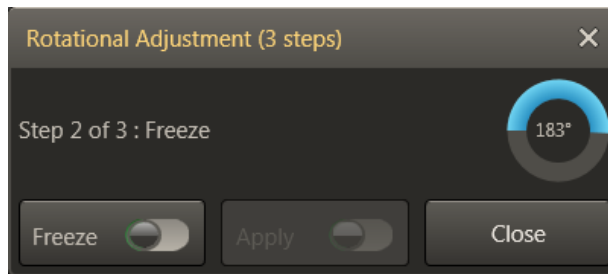

Figure 52: Rotational Adjustment, Step 2
2. When the guide ring indicates you are in the proper orientation, the dialog changes to “Step 2” as shown in Figure 52.